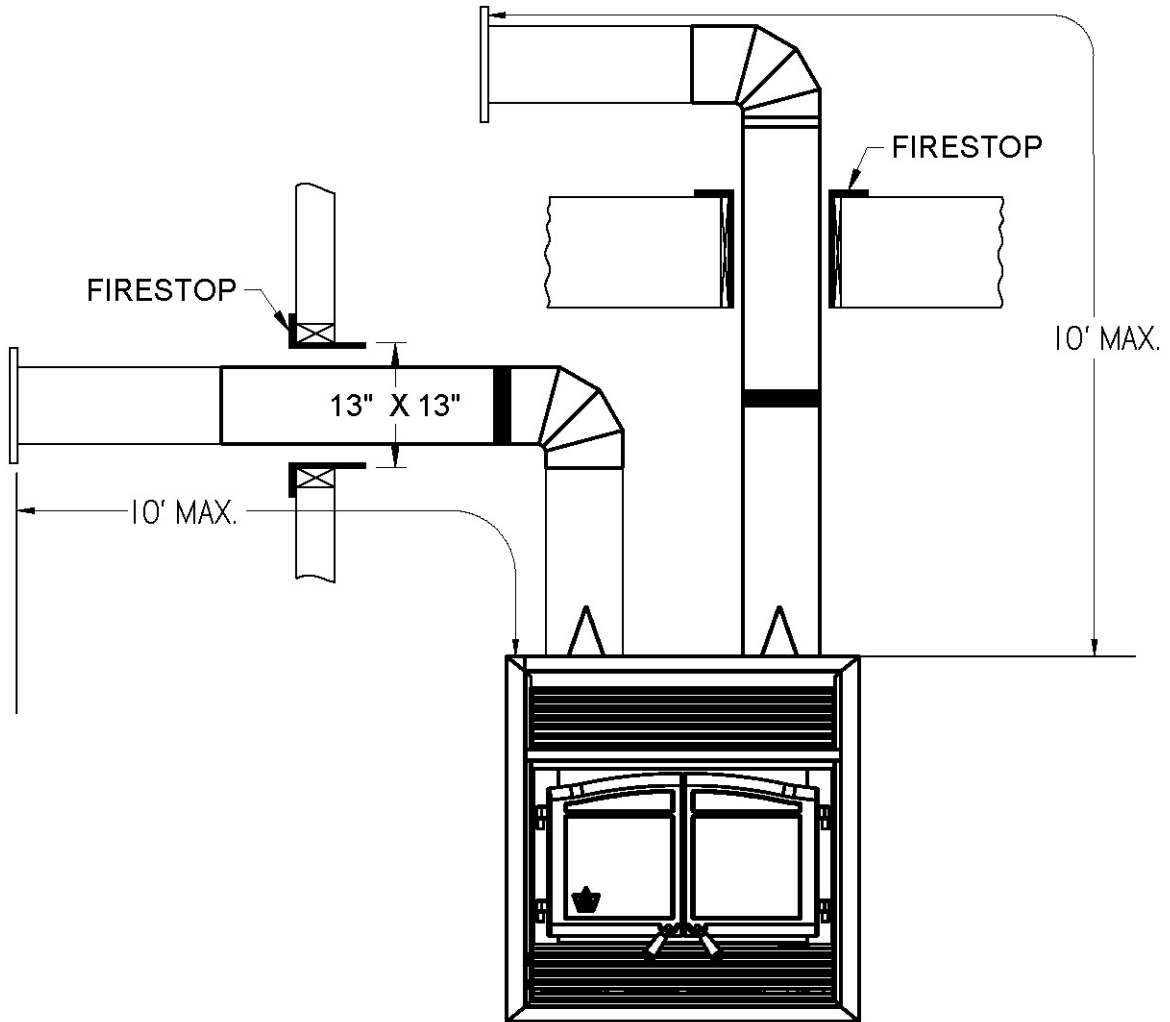

Figure 22
- Maximum length 10' (3m) (see figure 22)